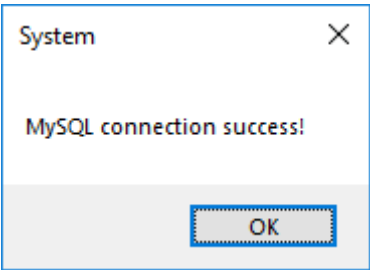

Figure 17
2. Enter the new password in both the "Password" and "Confirm" fields. Click Submit to change the password. The "MySQL connection success!" window should appear (Figure 17). If not, verify the password.